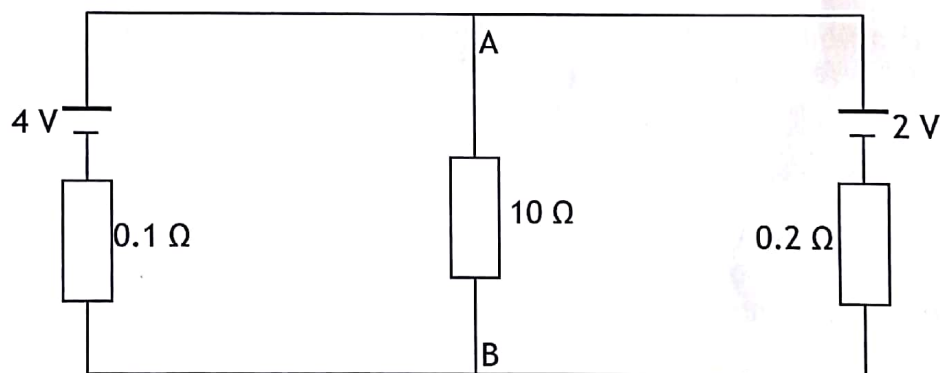

Fig Q1
1. (a) For the circuit shown in Fig Q1, determine EACH of the following:
- (i) the current through the $10\ \Omega$ resistor; (8)
- (ii) the p.d. across each resistor. (3)
- Calculate the voltage V_{AB} . (5)